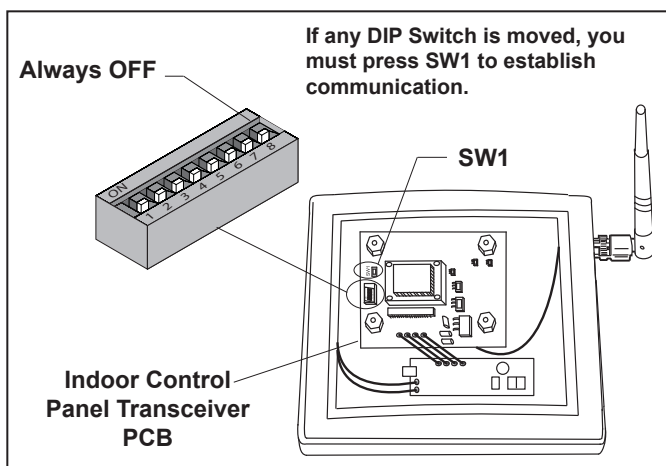

Figure 35. DIP Switch Settings at Wireless Indoor Control Panel
2. Locate the small set of DIP switches on the control panel PCB (see Figure 35). Except for DIP switch #8, turn on one or more DIP switches. **Important-** Before installing the control panel cover, press the reset button (SW1). Note which switches you have turned on then reinstall the cover and screws.